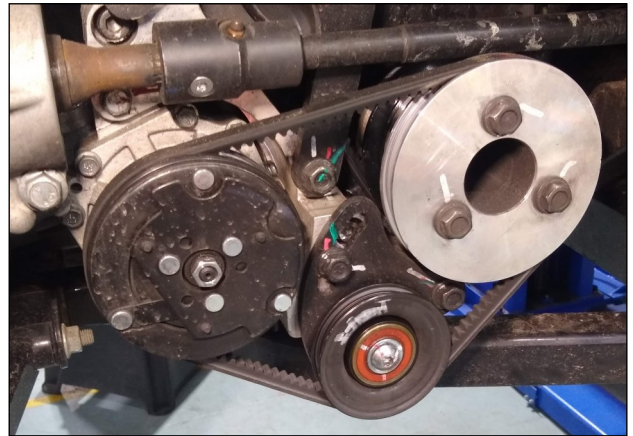

Fig. 3.6 Compressor Belt and Crank Pulley
- 3.5 Install the supplied crank shaft pulley and **torque to 30 ft lbs.** See Figures 3.6 & 3.7.
- 3.6 Per fig. 3.6, install compressor belt (AX27) and tensioner. Tension belt and **torque to 30 ft lbs.**